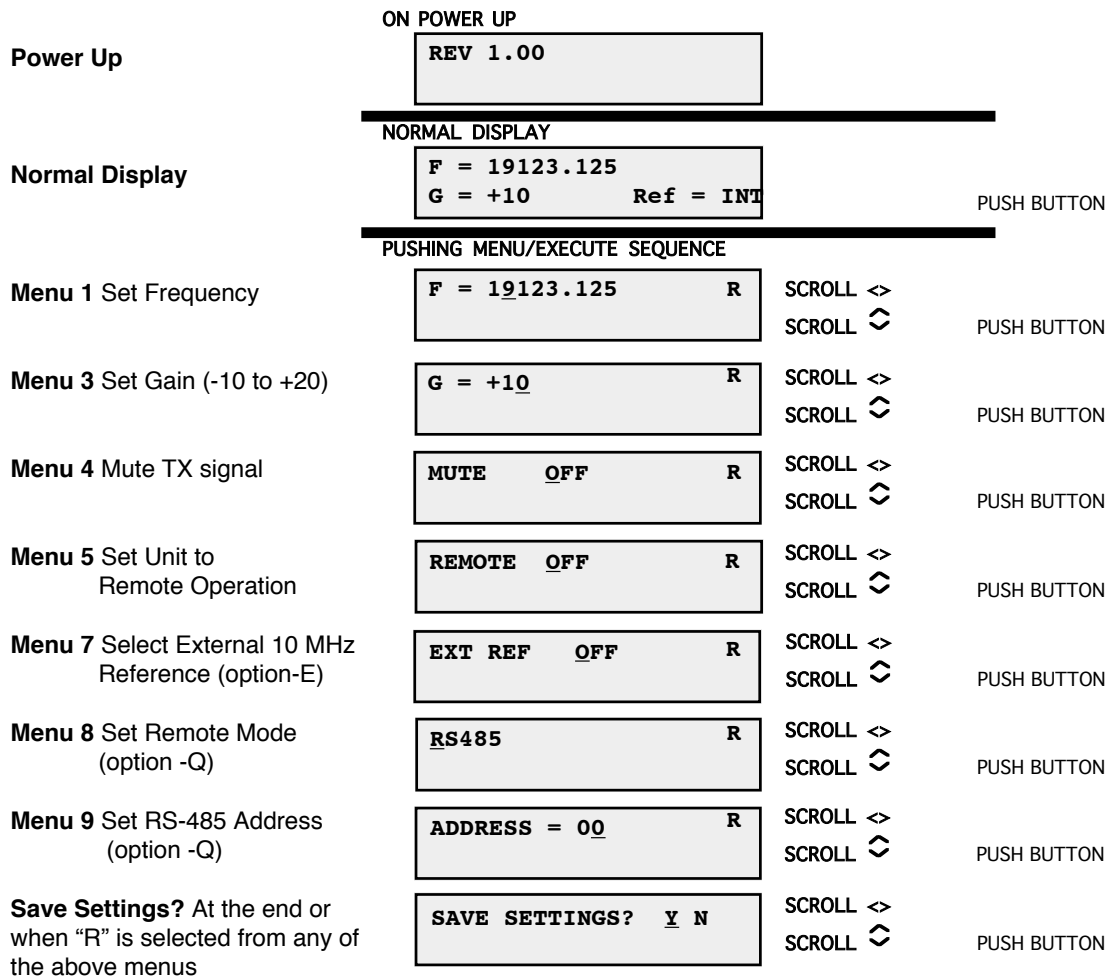

FIGURE 2.5 Menu Display and Sequence
2.5.1 Functions - This section describes operation of the front panel controls. There are three operator switches, the LCD display and alarm indicator LEDs. All functions for the equipment are controlled by these components. The functions are (see Figure 2.5, page 15):
1. Operate the Menu/Execute switch until you get to the menu item you want to change see Figure 2.5 for the sequence of menu options. The following display is for changing the Downconverter frequency:
Figure 2.5 shows all the menu items and how to make changes.
Operate the Menu/Execute switch until you get to the menu item you want to change (see Figure 2.5 for the sequence of menu options). The following display is for changing the Downconverter input level. This is an important setting to optimize spurious and should be made as accurately as possible:
Figure 2.5 gives the menu items and how to make changes.